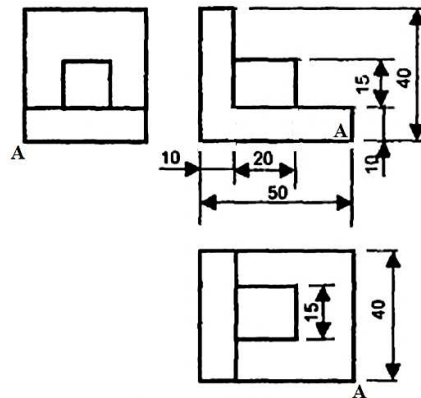

Figure Q1(b)
- a) The **Figure Q1(a)** shows isometric view of a bracket. Draw, using first angle projection, the following views: **Front**, **Top** and **Right side views**. Front view is indicated by the arrow A. Include all hidden details, show dimensions and projection symbol.
- b) Draw, **full size**, an **isometric** projection of the component shown in **Figure Q1(b)** below. Point **A** is to be the lowest point of the projection. Hidden details are not to be shown. **Do not** indicate dimensions.